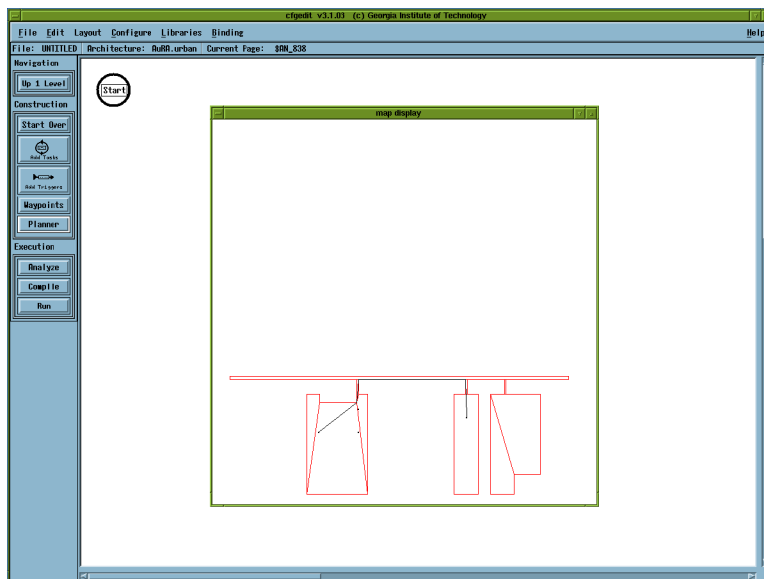
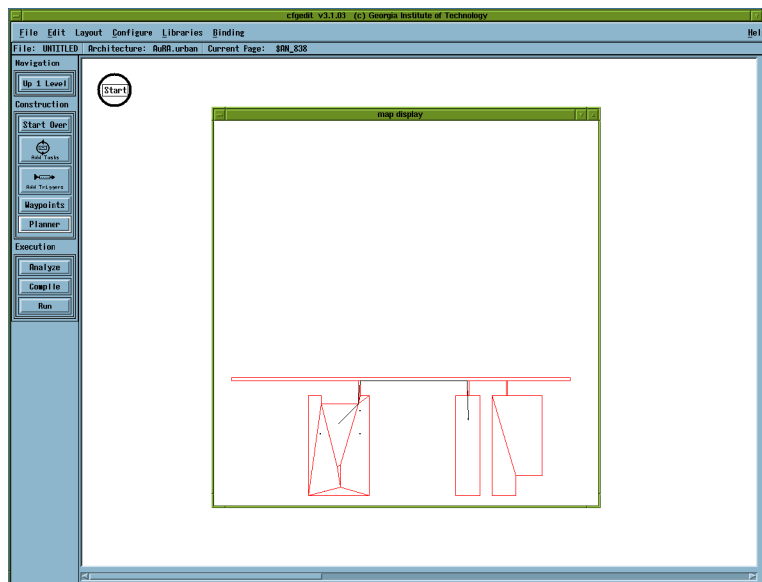

Figure 46: Path Planner Window.
Figure 49: Path Planner Window: an obstacle exists in the middle of the room.
The path planner is a separate program invoked from *CfgEdit* when users press the **Path Plan** button located on the left side of the screen. Pressing the button opens a separate window that displays a map (Figure 46). The user must specify a start and end position for the robot by left clicking on the map. The planner then constructs a path between these two points. The user has the option of constructing another path by repeating the clicks or quitting the planner by middle clicking or right clicking on the map window.
2. Before we do any form of path planning we have to apply some standard techniques from the robot motion planning literature. We define a configuration space by shrinking the border by the radius of the robot. From now on all operations are performed using the shrunk border only. This is the reason why the displayed map (Figure 46) may look strange.
3. The result from Step 2 is a complex polygonal region. To simplify the path planning task we partition this border into a set of convex polygonal regions. This explains why the map on Figure 46 has lines across the rooms.
Here is an example of a map file. The map that the planner generates from this file is shown in Figure 49. It differs from Figure 46 only by the obstacle in the middle of the room. Also note how the number, size and shape of the convex regions changes when the obstacle is added.